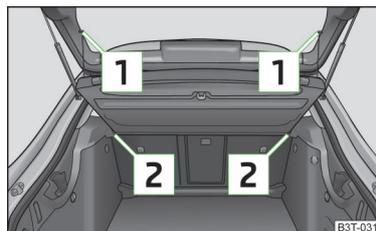

Fig. 104
- Hook the support straps **1** » Fig. 104 onto the boot lid.
- Push the boot cover into the brackets **2** » Fig. 104.